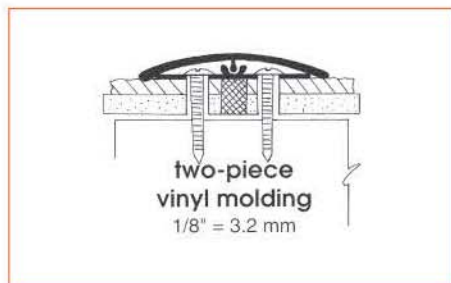

Figure 5
- Two-piece molding or heavy-duty batten strip and corners are available for non-standard thicknesses (Figure 5). See your frp panel distributor for availability.